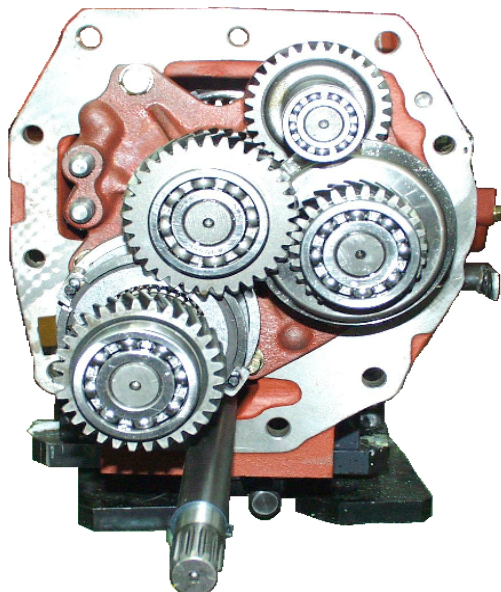

Fig.5-42
a.set the cut away part of the gear so that it clears the gear as shown in fig.5-42